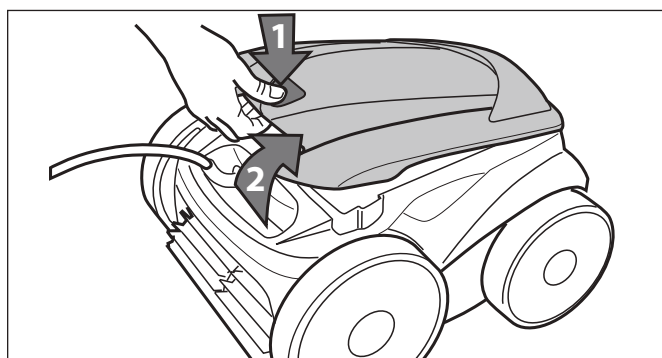

Figure 23. Lift Cleaner Cover
4. To remove the filter from the cleaner, follow the steps 5 through 8 (Figures 23 through 26).
5. Push the cover lock (1) and lift the cover (2) until it is secured in the vertical position. Refer to Figure 23.